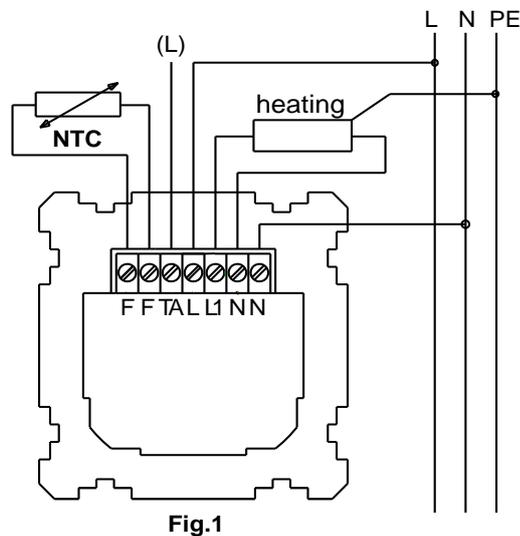

Fig.1
- Connections should be carried out in compliance with Fig. 1